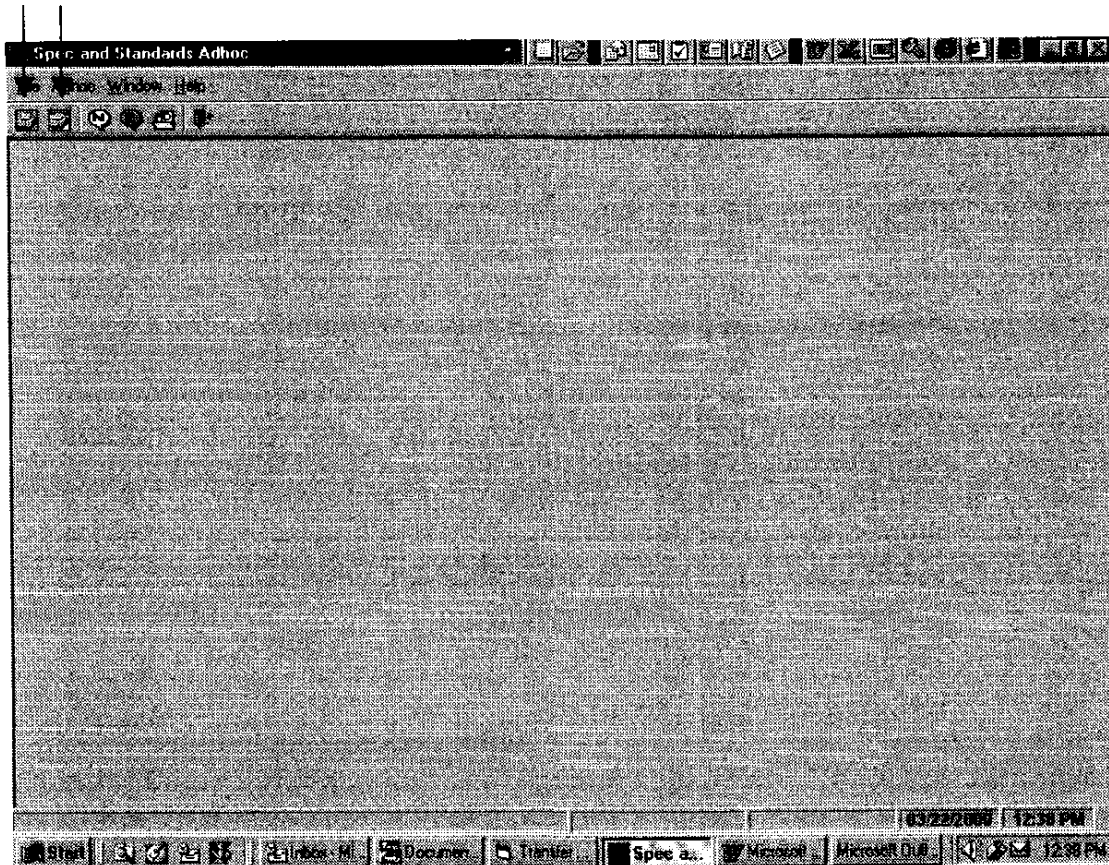

Figure 6.3a
a. Using the mouse, the user may select from one of four options from the main menu (see Figure 6.3a). The menu selections with drop-down menus include FILE, ADHOC, WINDOW, and HELP. The FILE drop-down menu includes the Print Screen, Print Window, and Exit options. The ADHOC drop-down menu includes the New Query, Existing Query, and Open Data File options. The WINDOW drop-down menu includes the Tile Horizontally, Tile Vertically, Cascade and Arrange Icons options. The HELP drop-down menu includes the Contents, Search, and About Specs and Standards Adhoc options.
b. The icons on the toolbar include, from left to right, the Print Screen Icon, the Print Active Window Icon, the New Query Icon (N), the Existing Query Icon (E), the Open Data File Icon, and the Exit Icon. Each icon and button on the Adhoc query screens also has an online help. If you leave the arrow near the bottom of a icon or button for a few seconds, the help text (tool tip) will be provided. On Figure 6.3a, the arrows point to the print capability icons. The first is used to print the screen and the second is to print the active window.